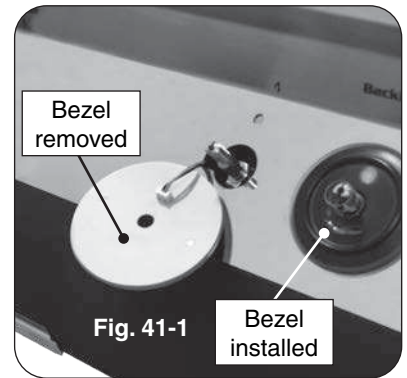

Fig. 41-1
4. Slowly lift the lighted bezels to clear the valve stems, and let rest as shown in Fig. 41-1.